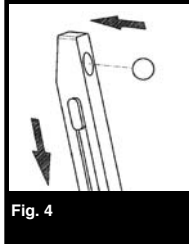

Fig. 4
- With the other hand, load up to 15 BBs in the magazine loading port (**Fig. 4**).